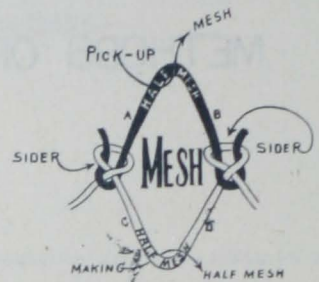

FIG. 3 - SINGLE MESH
1. Mesh knot--also referred to as a half-mesh knot; that is, in making a half mesh a mesh knot is tied. The white lower half (Figure 3) is the half mesh; C and D are the legs of the half mesh. After a knot is tied the legs are referred to as bars or strands.
2. Pick-up knot--a knot tied to a half mesh on the base or the lower part of the damage. Tying the lower mesh forms the pick-up knot on the pick-up mesh. The pick-up mesh is shown in black in Figure 3. The legs of the pick-up mesh are A and B.
3. Sider knot--refers to a knot of two separate strands as shown in Figure 3. These are only found on the sides of the damage; that is, on either side of the webbing when held or hung straight. Sider knots are of two types, called "sider on the left" or "sider on the right" depending on which side of the damage they are located.